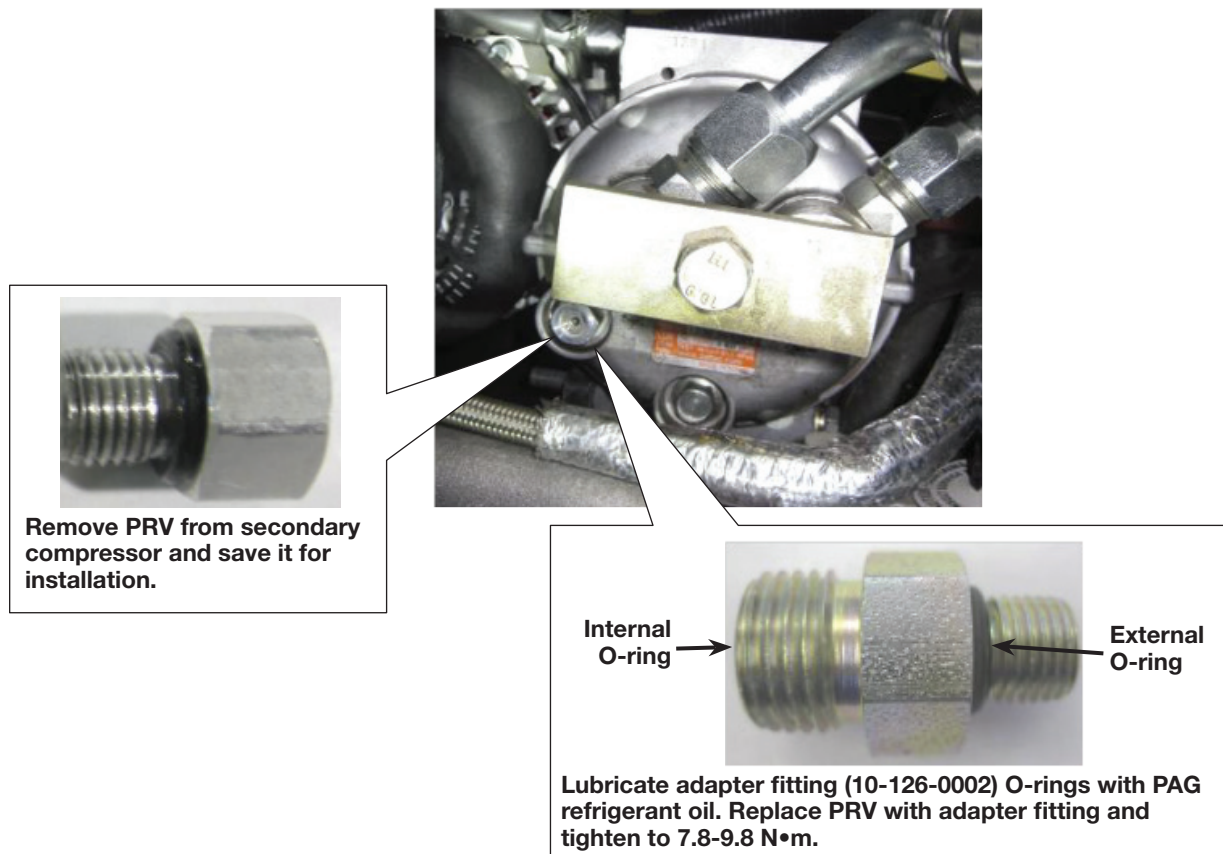

Figure 2 – Adapter Fitting Installation
3. Remove the pressure relief valve (PRV) (**Figure 2**) from the rear of the secondary compressor and save for reuse at the remote mounting location. Capture any PAG oil that comes out of the compressor in a clean container for reuse.